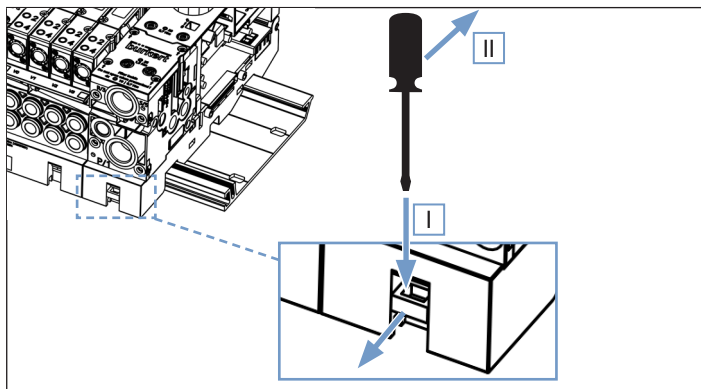

Fig. 24: Operating unlocking slider
- Insert a slotted screwdriver into the unlocking slider on the right connection segment (see “Fig. 24”) (I) and tilt (II) the slider out approx. 2 to 3 mm. This opens up the terminal module locked to the right.